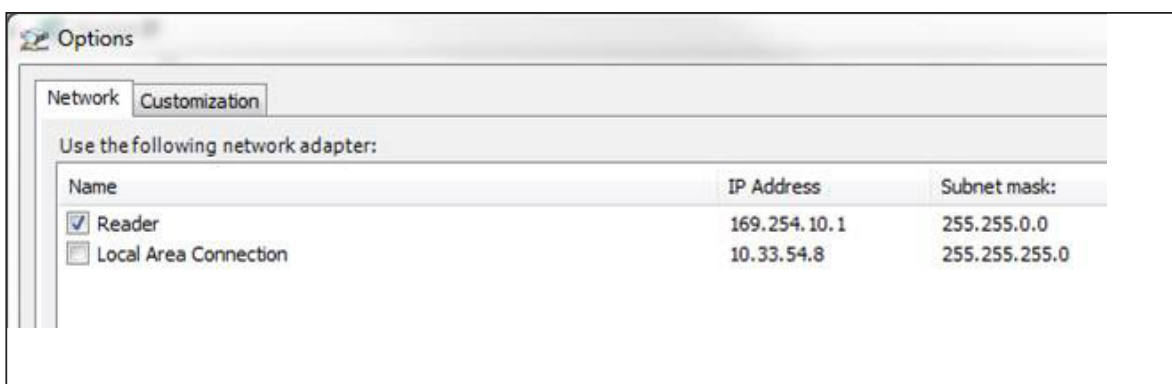

Figure 18 Adapter Options
3. At the next prompt, choose the desired adapter (Figure 18). If necessary, the selection can be changed at a later time through the OPTIONS menu.